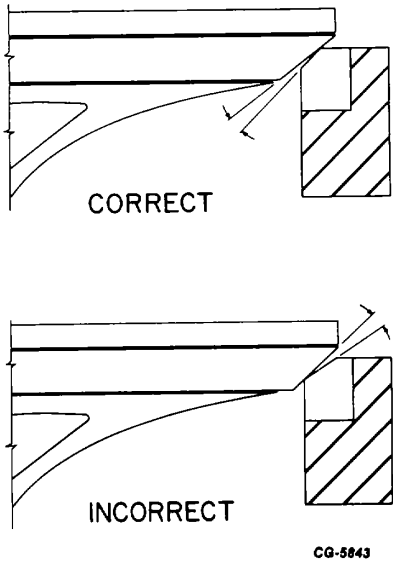

Figure 29. - Valve Seat Width
- f. After grinding seats, it may be found that seats are wider than the specified width, as shown in Fig. 29.